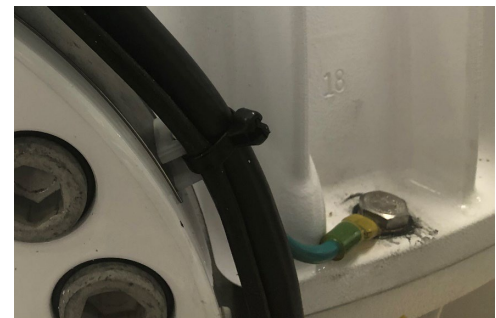

Figure 3: Seakeeper enclosure ground lug on early AC model.
10. **IF** Seakeeper has an enclosure ground near the equator, **THEN REMOVE** enclosure ground cable on enclosure near equator (Fig.3).